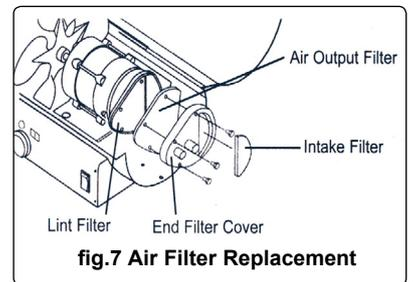

fig.7 Air Filter Replacement
- 7.4.1. The cast alloy compressor unit is protected by a three stage filter system (fig.7). The intake filter should be cleaned every 500 hours or more regularly if the appliance is used in a dusty environment.